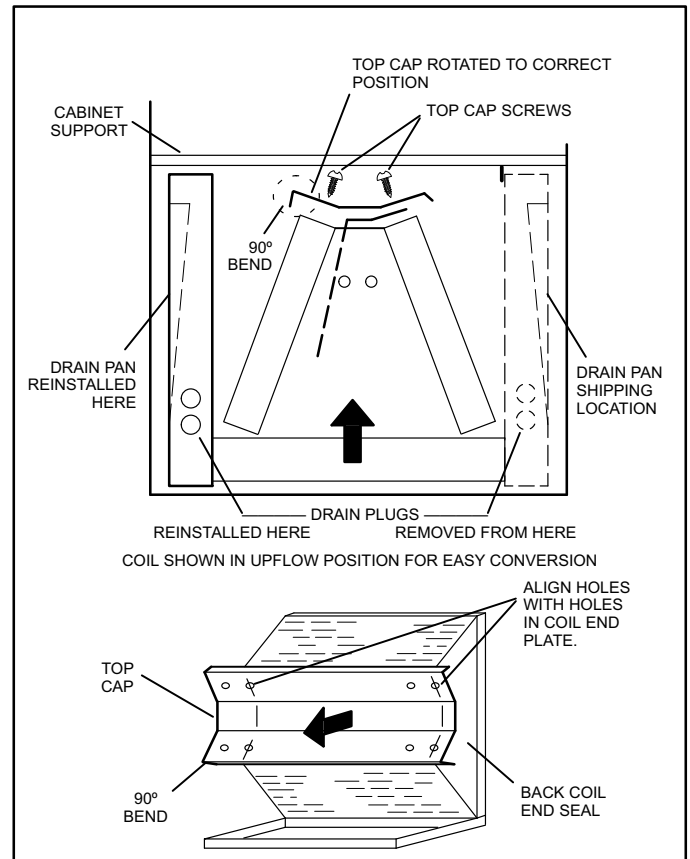

Figure 27. Field Modification for Left-Hand Air Discharge
8. From the upflow position, flip cabinet 90° to the left and set into place. Replace coil assembly. Secure coil in place by bending down the tab on the cabinet support rail as illustrated in figure 27.
cabinet is supported. Use securing screws no longer than 1/2" (12.7mm) to avoid damage to coil or filter as illustrated in figure 27. Connect return and supply air plenums as required using sheet metal screws.